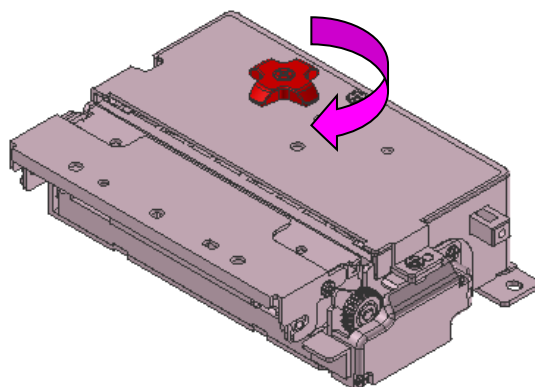

Fig 12-7 Example of using knob wheel
- Method to clear the cutter jam using knob wheel (Refer to Fig 12-7)